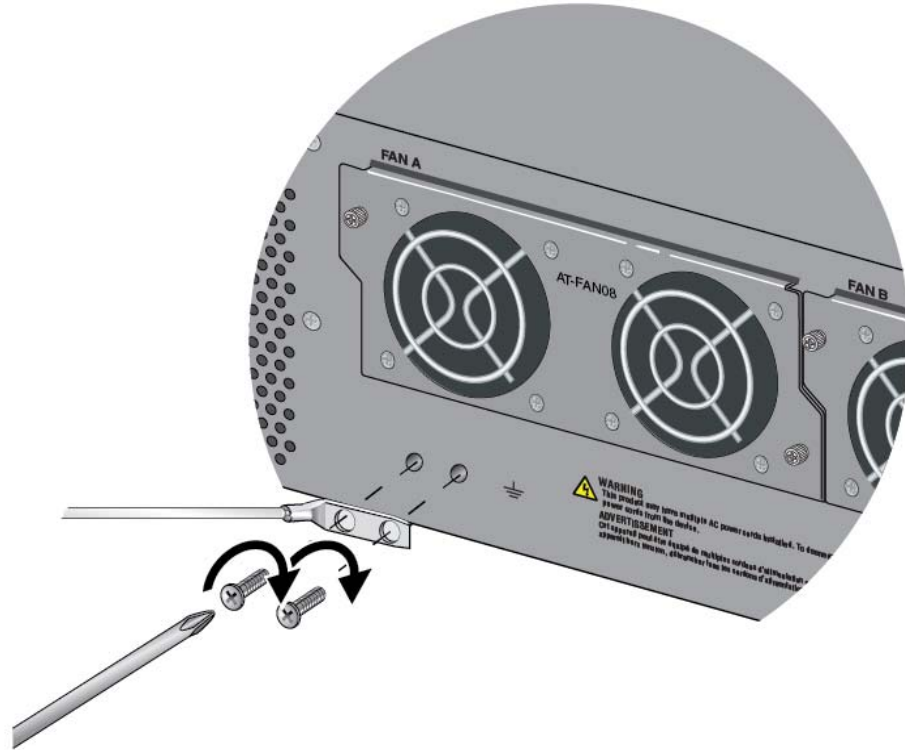

Figure 32. Installing the Grounding Lug and Wire
4. Install the grounding lug on the rear panel of the chassis. Refer to Figure 32 on page 70.